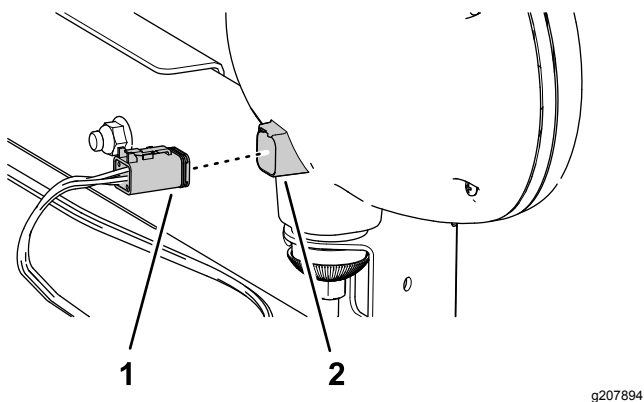

Figure 15
5. Plug the 6-socket connectors labeled RIGHT FRONT TURN/RUNNING LIGHT and 6-socket connector (RIGHT FRONT TURN/RUNNING LIGHT) into the 6-pin connectors of the worklights (Figure 15).